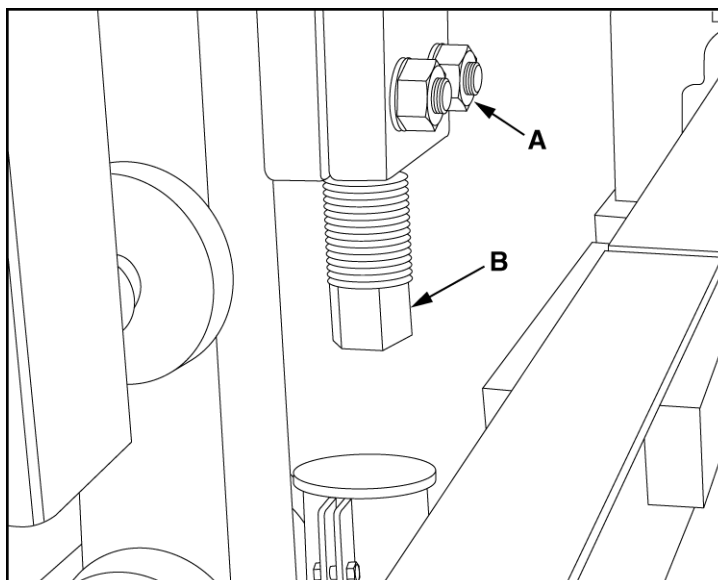

Figure 5.28 HEIGHT PINS ADJUSTMENT (LEFT SIDE SHOWN)
- 5.6.7 Loosen nuts (A) and set height pins (B) to be this far away – the final result of the measurement in 5.5.6 – from lower height stops (figure 5.28).